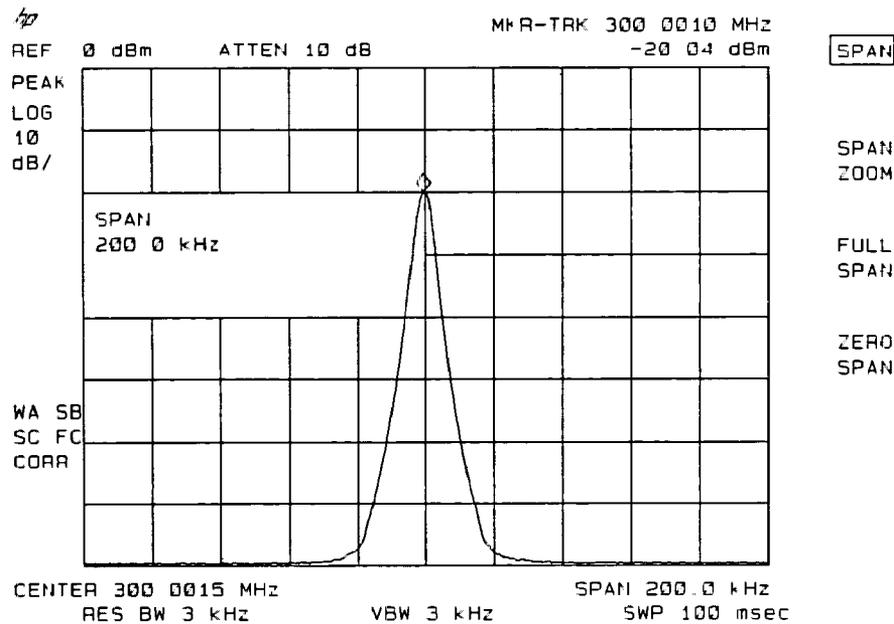

Figure 6-6. After Zooming In on the Signal
3. Press **SPAN**, 200 **kHz**. The span decreases in steps as automatic zoom is completed. You can also use the knob or step keys to decrease the span. See Figure 6-6.